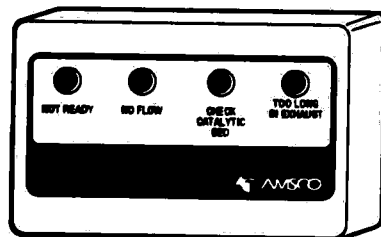

Figure 2-4. Remote Alarm Box — Eagle 2000 IRC Sterilizers
2. **ALARMS and SIGNALS** — A remote alarm box (see Figure 2-4) is mounted near the sterilizer to provide an audible and visual indication of the following alarm conditions: